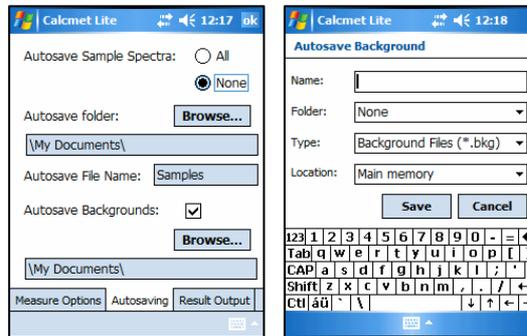

Figure 16. Save background files.
- Store the background files (Figure 16). Background spectra can then be downloaded onto the desktop and checked using Calcmnet software. Go to File → Settings → Autosaving tab → Check Autosave Backgrounds. Click “Browse...” to specify the folder and the name given to the saved background files. Use the “built in” keyboard to enter the background name.